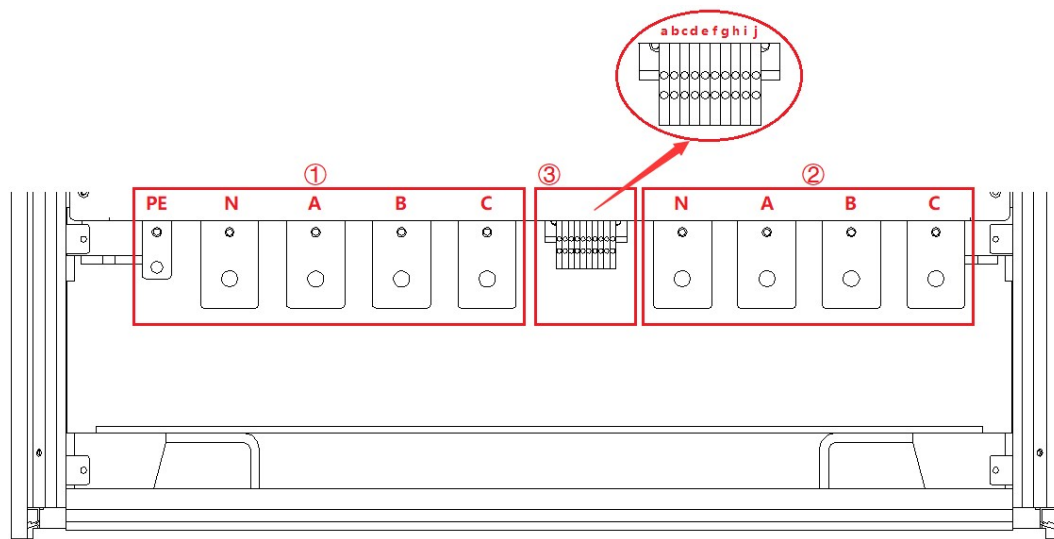

Figure 1-19
The remote sense interface is located at the internal wiring layer-③: e, f, g, h, i, j (Figure 1-19).